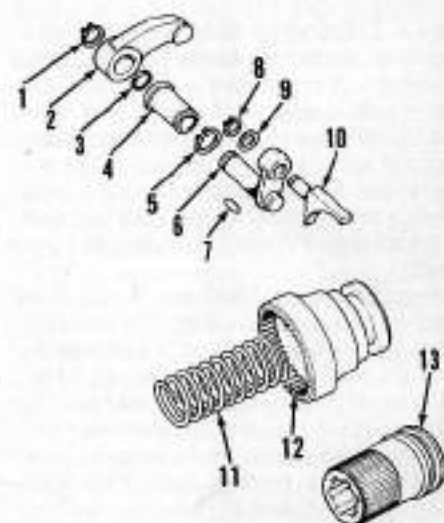

Fig. 177 - Exploded view of differential lock component parts. Note pedal and linkage arrangement varies from model to model.
322. Depressing differential lock foot pedal causes sleeve (12 - Fig. 177) on 1690 models or sleeve (13) on all other
Reverse removal procedure noting special tool (CAS-1633) is available to aid installation of locking sleeve and spring. Install spring in differential end plate, place sleeve on end of special tool (CAS-1633) and push sleeve and spring in until sleeve splines engage differential end plate splines and fork (10 - Fig. 177) is in groove of sleeve. Wire lever (2) in engaged position to hold sleeve and spring in place during remainder of reassembly.